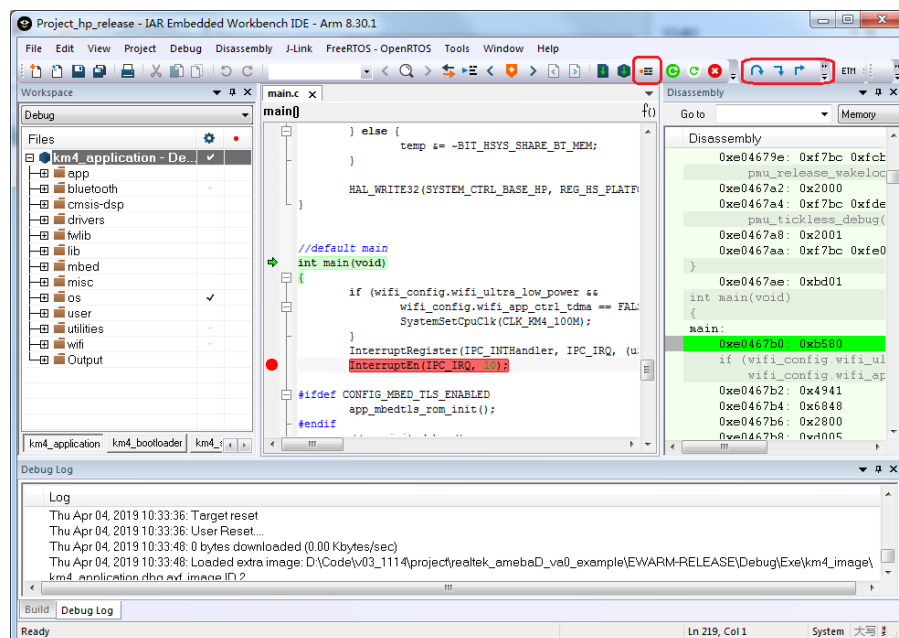

Fig 1-16 Toggle breakpoint
- (4) Toggles a breakpoint at the statement or instruction that contains or is located near the cursor in the source window. The "Toggle Breakpoint" button is on the debug toolbar, as Fig 1-16 shows.